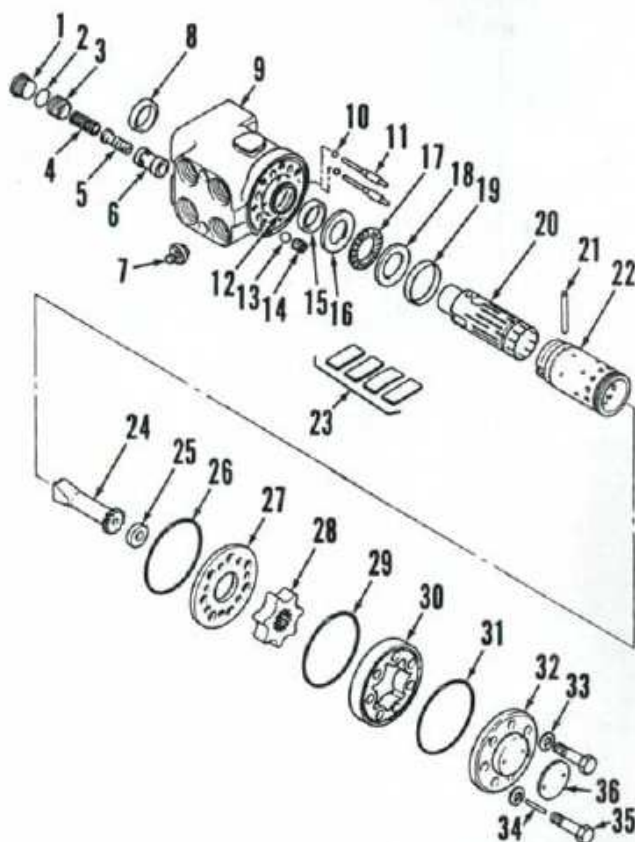

Fig. 35—Exploded view of the Danfoss steering hand pump.
To disassemble the steering hand pump, clean exterior of assembly, then unbolt and remove steering shaft and column. Scribe match marks across end cover (32—Fig. 35), stator (30), distributor plate (27)
Reassemble by reversing the disassembly procedure keeping the following points in mind. Lubricate all internal parts with Hy-Tran Plus fluid and coat all "O" rings with petroleum jelly during reassembly. When installing plate springs (23—Fig. 35), first install the two flat springs. Then, install the two curved springs (arches back to back) in between the two flat springs. When installing rotor (28) on shaft (24), make certain that cross pin slot in shaft aligns with center of a valley in rotor. Align match marks and tighten end cover cap screws (35) to a torque of 22-26 ft.-lbs. (30-35 N·m).
tery, hood, panels and instrument panel) except access panel to adjust relief valve (5) pressure. Refer to paragraph 23 and adjust relief valve pressure as follows: Remove plug (1—Fig. 35) and with engine operating at 1000 rpm, check relief pressure on gage. Pressure should be 2150 psi (14825 kPa). Turn adjusting plug (3) inward to increase pressure or outward to decrease pressure. Install and tighten plug (1) and complete balance of installation.